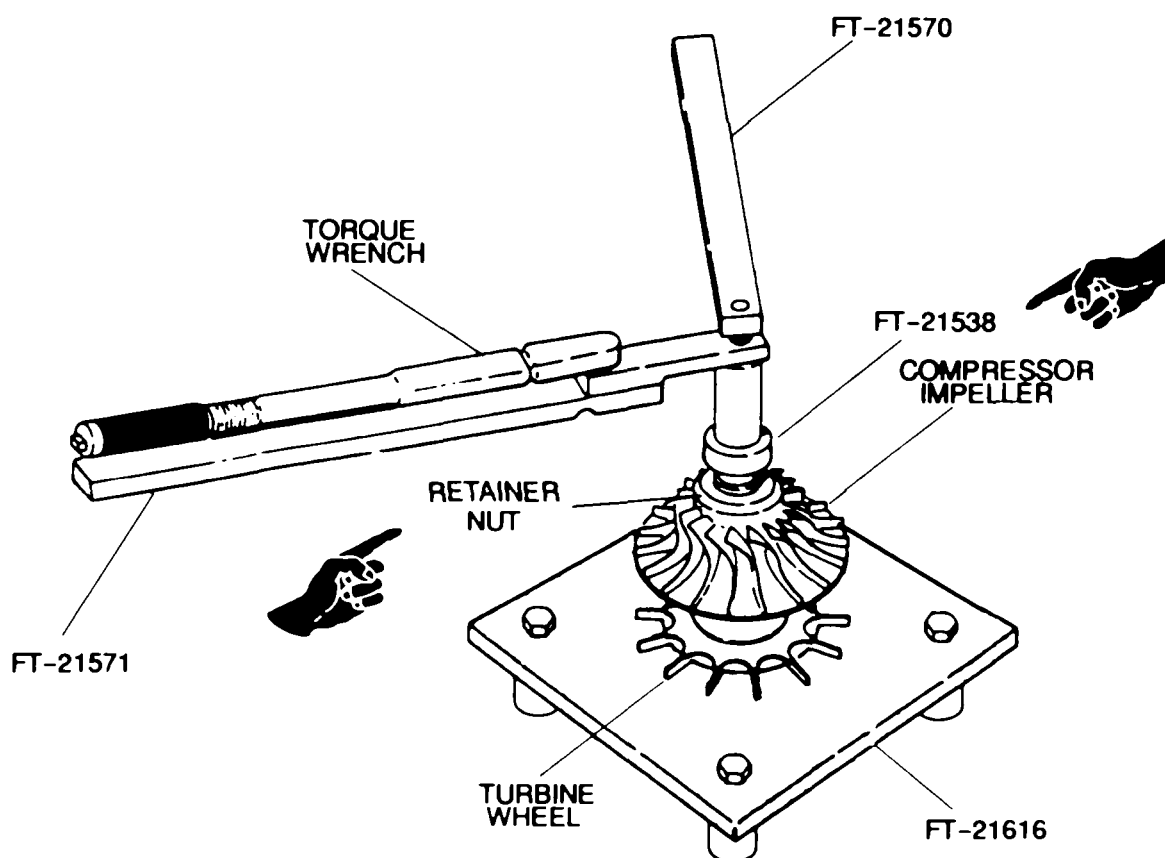

Figure 8-11. Removing/Installing Retainer Nut Using Fabricated Tools
(2) Place turbine wheel (20) In fabricated tool (FT-21616, Figure 8-11)
(3) Heat labyrinth seal (19) and dummy bearing fabricated tool (FT-21538, Figure 8-11) to 250-350° F (121-176.60 C), approximately 20-30 minutes
Second dummy bearing fabricated tool, (FT-21538, Figure 8-11) is used in place of bearing (18, Figure 8-6) in this procedure.
(7) Coat dummy bearing fabricated tool, (FT-21538, Figure 8-11) with turbine oil and Install without heat.
(8) Put turbine oil under retainer nut (15, Figure 8-6) Using fabricated tools (FT-21570, FT-21571, Figure 8-11) and torque wrench, torque retainer nut (15, Figure 8-6) to 300 inch pounds (33.90 Nm) Back off and re-torque to 50 Inch pounds (5.65 Nm)
(10) Using fabricated tools (FT-21570 and FT-21571, Figure 8-11) but without torque wrench, tighten retainer nut Remeasure shaft length as described In step (9), above Repeat procedure until 0.007 to 0.009 inch stretch has been achieved